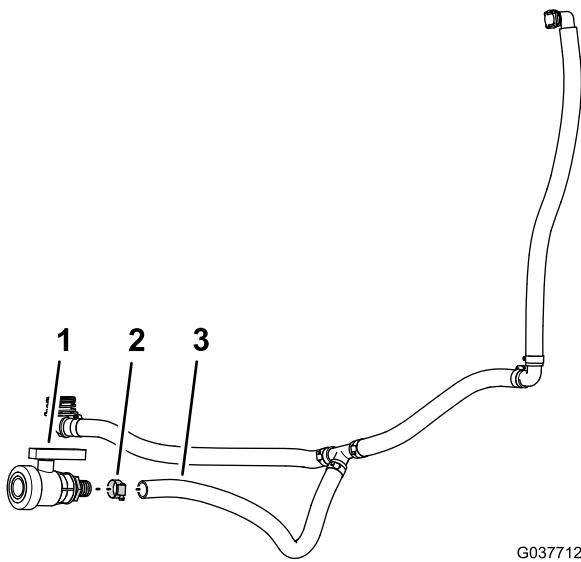

Figure 73
1. Assemble the barbed fitting of the drain valve that you removed in step 6 of 5 Removing the Bypass, Drain, and Agitation Components (page 13) to the drain hose—104 cm (41 inches) of the bypass and drain-hose assembly (Figure 73).